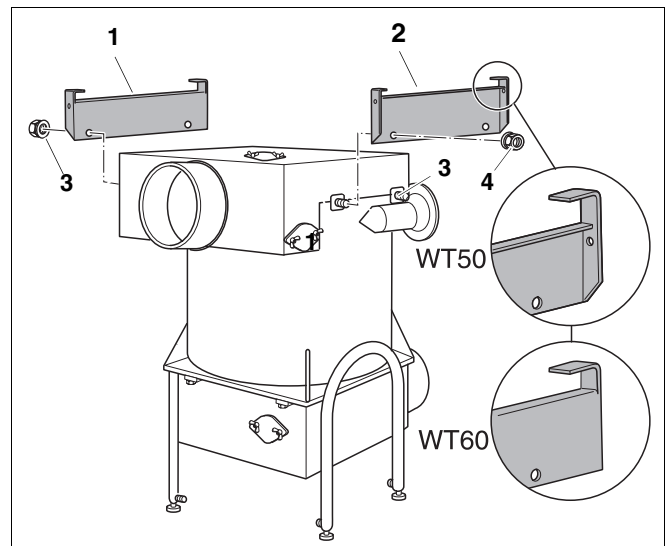

Fig. 7 Fitting upper beams
- Screw upper left and right beams (Fig. 7, **Item 1** and **2**) with two nuts each (Fig. 7, **Item 4**) onto the tabs (Fig. 7, **Item 3**).